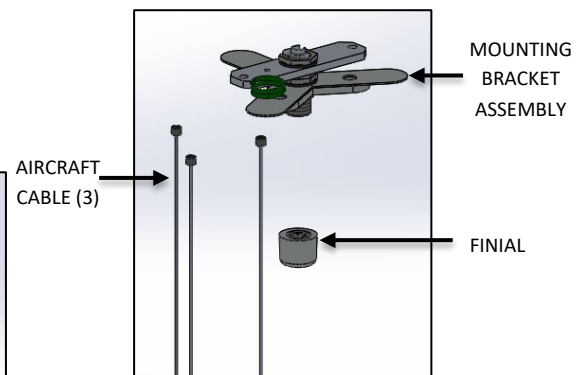

FIG. 7 MOUNTING KIT
- c. MOUNTING KIT CONTENTS (as shown on FIG. 7)